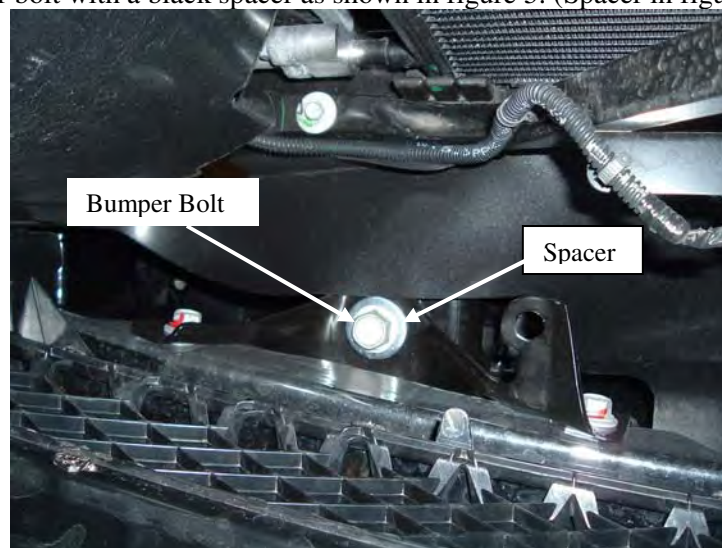

Figure 5. Bumper Bolt and spacer
7. Re-install vertical bumper bolt with a black spacer as shown in figure 5. (Spacer in figure 5 is shown uncoated.)